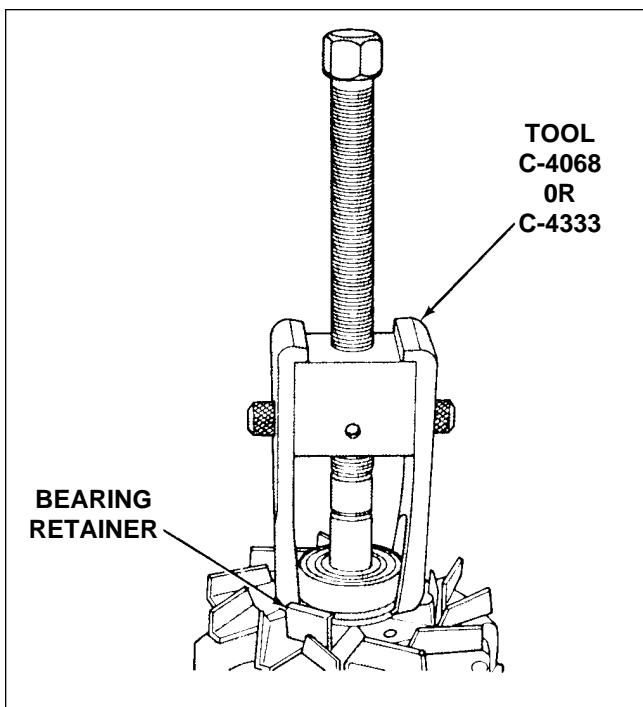

Figure 24-28. Removal of Chrysler Alternator
- Remove drive end ball bearing with Puller Tool C-4068. (Refer to figure 24-28.)